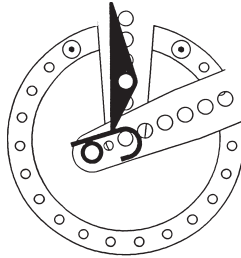

Figure 10
- Step 7) With the workpiece as tight against the Long Hitch Pin (#1) in the center as is possible, make a right angle bend-see Figure 10.